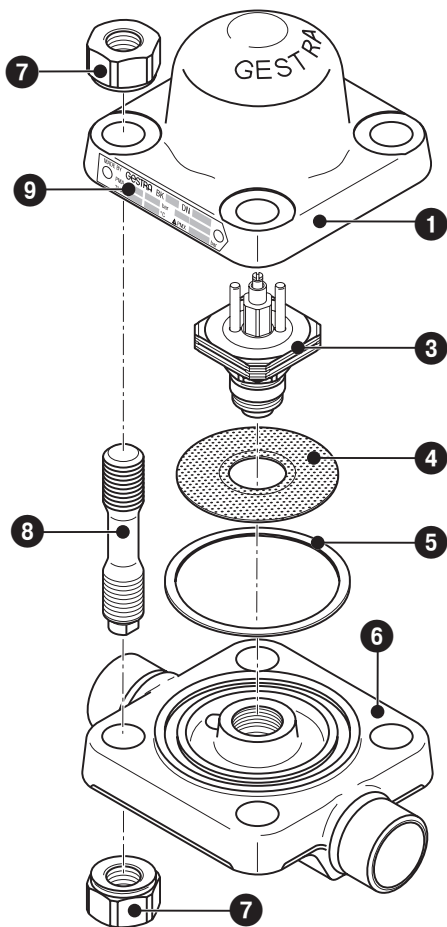
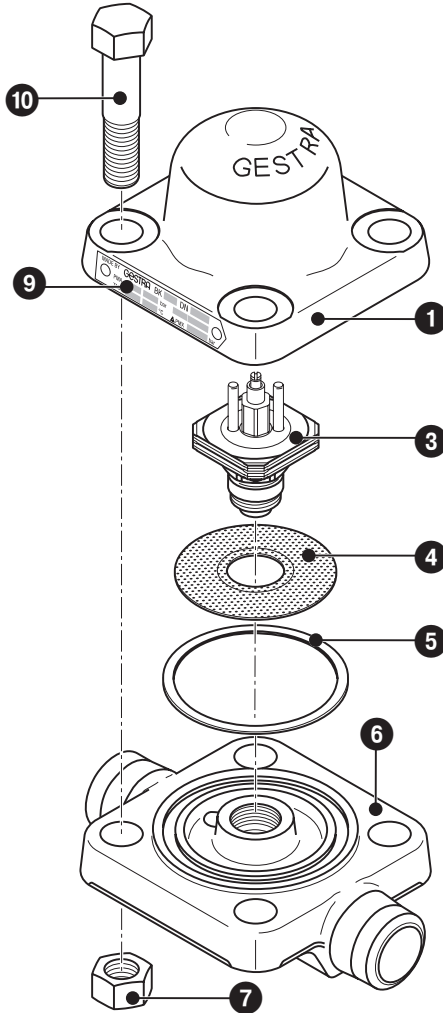
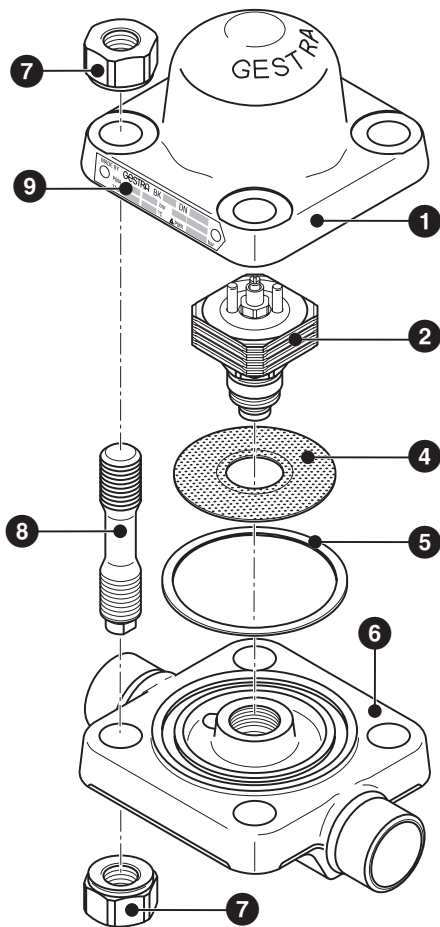
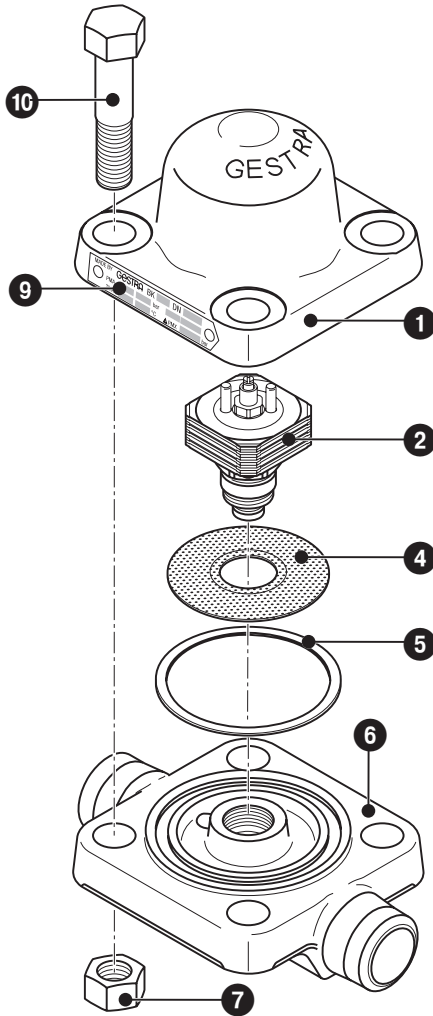

Fig. 2
Fig. 3
Fig. 4
Fig. 5
2. Remove cover ❶ from body ❸. **Fig. 2, Fig. 3, Fig. 4, Fig. 5**
3. Remove Thermovit® regulator ❷ or ❸ using an open-end spanner (US: wrench).
4. Unscrew Thermovit® regulator ❷ or ❸ and take off strainer ❹.
6. Clean sealing surfaces and insert new gasket ❺.
7. Clean seating surfaces of body ❸ and Thermovit® regulator ❷ or ❸.
8. Clean and insert strainer ❹.
9. Mount Thermovit® regulator ❷ or ❸ and tighten with the torque indicated in the table **Torques required for tightening**.
10. Apply heat-resistant lubricant to threads of stud bolts with reduced shank ❽ or threaded bolts ❿ (use for instance OKS 217®).
11. Put cover ❶ in place, fasten stud bolts with reduced shank ❽ or threaded bolts ❿ using hexagon nuts ❼ and tighten in diagonally opposite pairs with the torque indicated in the table **Torques required for tightening**.